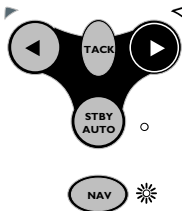

Fig 4.5 - Increasing Gain level
- Use the **Port** (◀) and **Starboard** (▶) keys to adjust the Gain setting between 1 and 9 (Fig 4.5).